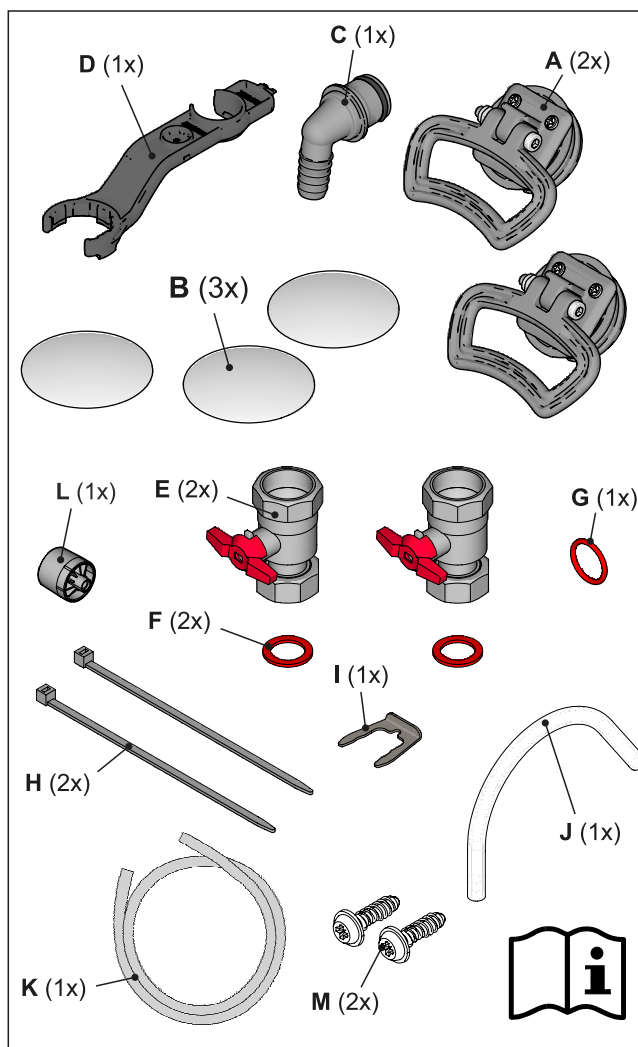

Fig. 3-5 Contents of bag of accessories
- Bag of accessories (see Fig. 3-5),